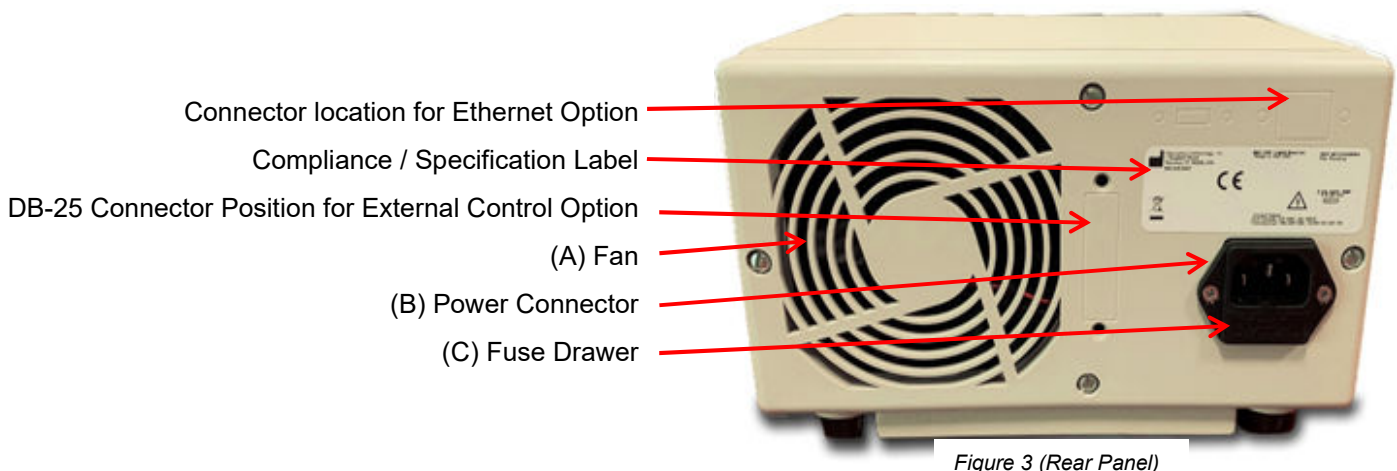

Figure 3 (Rear Panel)
2. Plug the power cord into the power connector (*Figure 3 - Rear Panel, item B*).